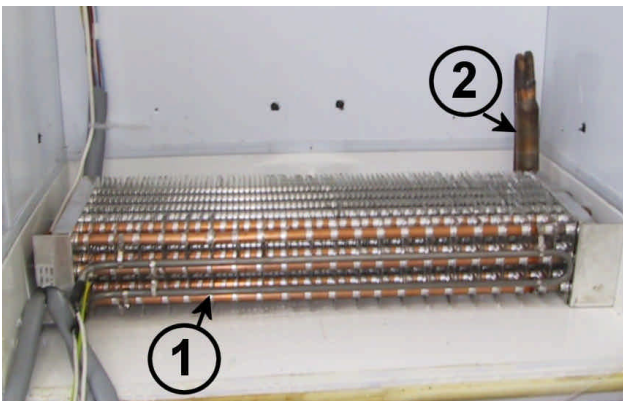

Figure 56
Remove the end defrost thermostat (KFS) (104) (“1” in Fig. 55) and the evaporator heater (REV) (102) (“1” in Fig. 56) and unweld the pipes connecting the evaporator to the circuit:
Slip off the probe from the sensor holder located on the evaporator (Fig. 56), disconnect it from the control board (CE) (13) located on the upper section of the tank (Fig. 15) (accessible removing the top of the unit (25)) and remove it.
4.2.4 EVAPORATOR HEATER REPLACEMENT (REV) (102)
In order to reach the evaporator heater (REV) (102) (shown as “1” in Fig. 56), follow the instructions explained in par. 4.2.2. To reach the connector located on the electric components support inside the compressor compartment, take off the basement referring to par. 2.4.1.1. and 2.4.1.2..